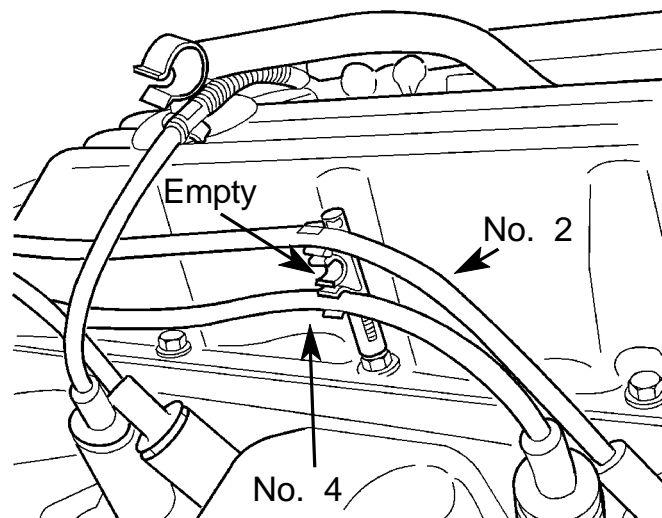

FIGURE 5
- B. At the three-wire clip (located at the center of the lower side of the right valve cover), keep the two wires from crossing and chafing each other. Position the No. 2 cylinder plug wire in the top wire slot and the No. 4 cylinder plug wire in the bottom wire slot. Leave the middle wire slot empty (Figure 5).